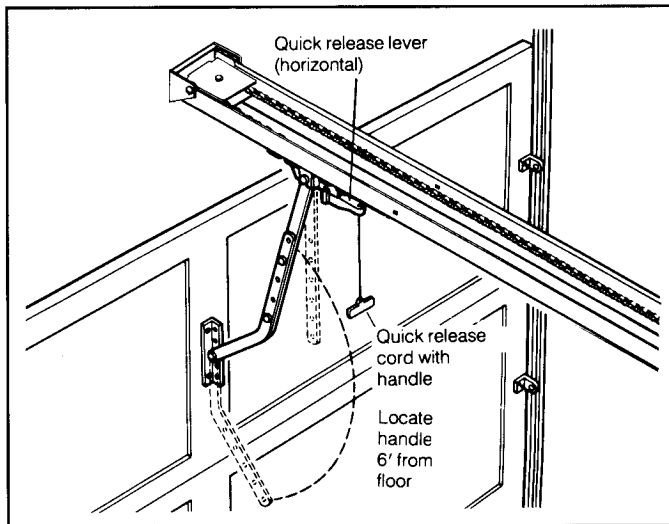

Figure 18. Connecting Door Arm Sections and Quick Release Cord
Step 37: Connect the two free ends of the door-arm assembly by rotating the curved section upward to the straight section so that two holes in each section can be matched. See Figure 18.
Step 38: Attach pull cord to quick-release lever on trolley bottom as shown in Figure 18. The red handle should be 6' above the garage floor.
The quick-release lever (with pull-cord attached) must be in the horizontal position (up) (See Figure 18.). If the quick-release (disconnect) lever is in the vertical position (down) the trolley bottom will not engage the "traveler" that rides the chain drive and the door will not move.